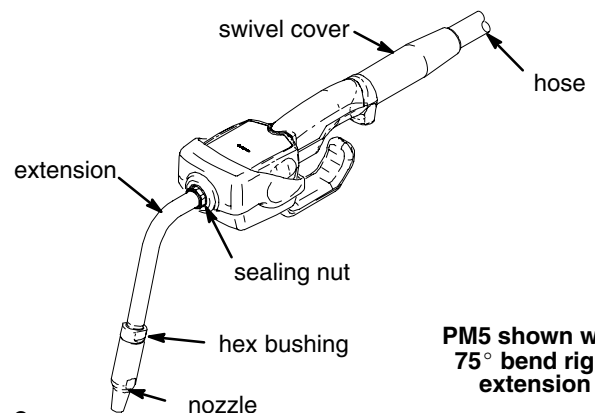

Fig. 2
7. Thread the sealing nut onto the extension by hand, PTFE insert out. By hand, thread the extension at least three full turns into the outlet of the EM5 or PM5 so it is tight, position the extension for proper alignment, and tighten the sealing nut with a wrench. See Fig. 2.
8. Thread the new EM5 or PM5 nozzle onto the extension, and tighten it firmly. On the EM5, use a wrench on the flats of the nozzle. On the PM5, use a wrench on the flats of the hex bushing. See Fig. 2. **Do not use thread tape or sealant.**